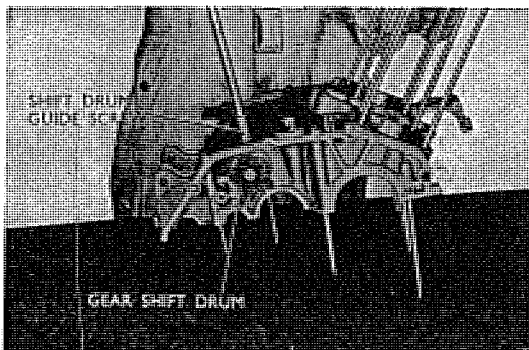

Fig. 3.124 Removing shift drum guide screw
3. Remove the shift drum guide screw and the shift drum guide collar at the upper surface of the upper crankcase. (Refer to Fig. 3.124)